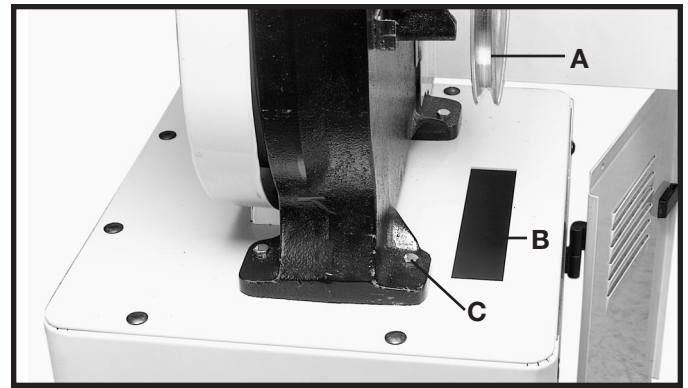

Fig. 23
1. Place the band saw on top of the stand as shown in Fig. 23. **NOTE: MAKE SURE THE PULLEY (A) FIG. 23, IS ON THE SIDE OF THE STAND WITH THE BELT OPENING (B).**
3. Place a 5/16" flat washer onto a 5/16-18x1½" hex head screw. Insert the screw through the hole (C) in the saw and the stand.